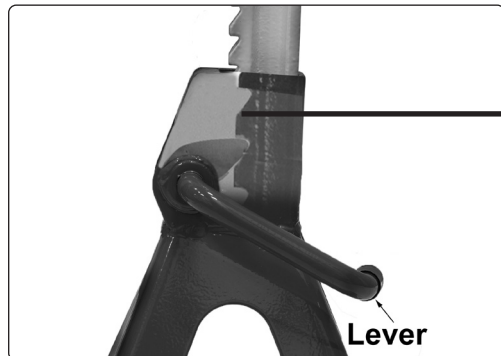
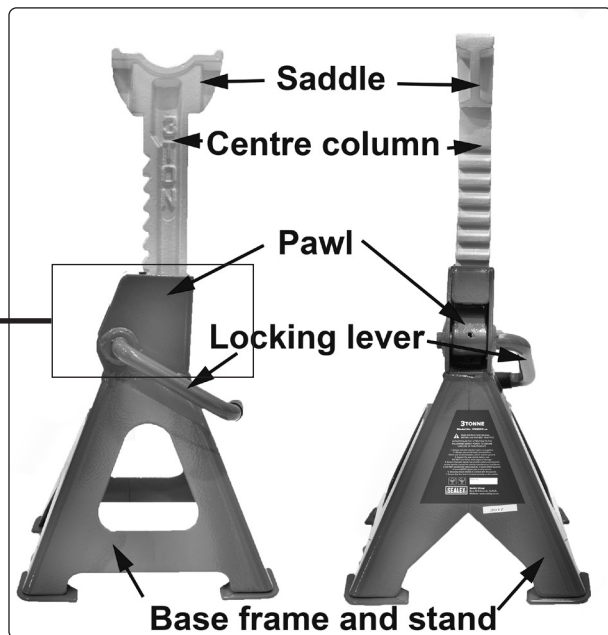

Fig.2
Fig.1
- 4.1. Insert the centre column into the base frame and stand (fig.1).
- 4.2. Ensure the toothed side of column will engage with the locking lever mechanism (fig.2).
- 5.3.1. Hold the control lever up while lifting the centre column to required height. Push the control lever down to lock the pawl into the central column teeth (fig.1 and fig.2).